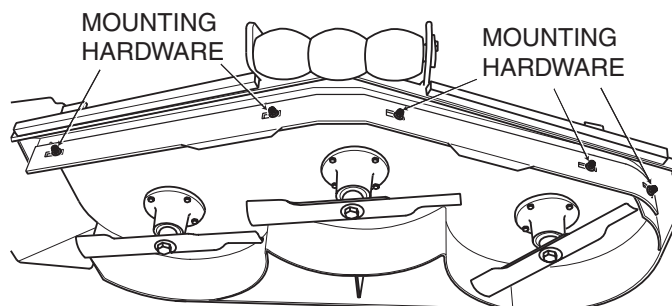

Figure 14. Custom-Cut Baffle
2. Remove the hardware securing the Custom-Cut Baffle to the cutter deck. (See Figure 14).